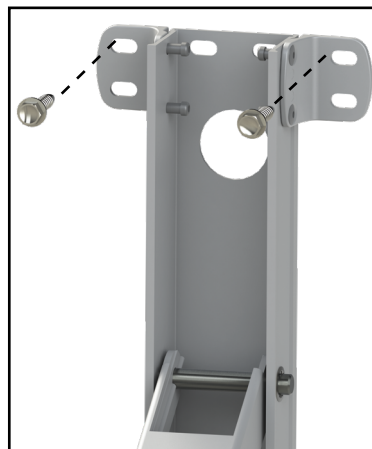
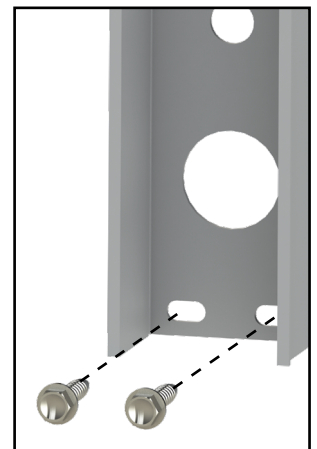

Fig.5
Fig.6
2. Lift the support arm assembly up and secure by setting the awning assembly to the desired height and attaching it to the side of the unit with two #14 x 1 1/4" plain hex head self-tapping screws at the top (Fig.5) and two #14 x 1 1/4" plain hex head self-tapping screws at the bottom (Fig.6).